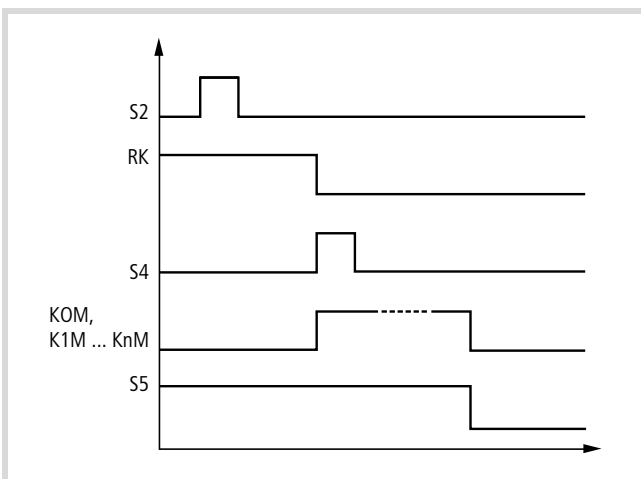

Figure 43: xStart-XS1 sequence with ESR4 safety relay
When On pushbutton S2 is released, the ESR4 safety relay performs a self-test. If successful, the ESR4 opens the signal path (terminal 31-32). Through the two enable paths (terminal 13-14 and 23-24), contactors K0M and K1M to KnM can now pick up with start signal S4 (→ fig. 43).
figure 43 shows the time sequence. The motor starters are switched by operating switches S2 (ON) and S4 (START). The OFF signal is issued with S5 (STOP).